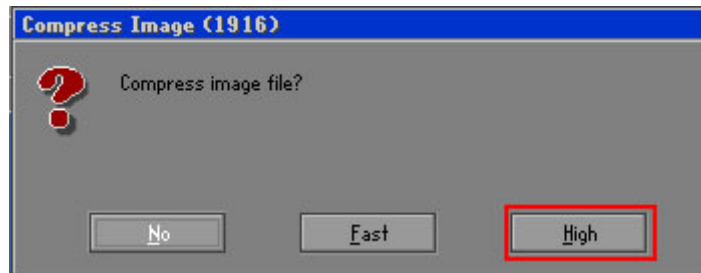

Figure A-17: Compress Image
Step 8: When the Compress Image screen in **Figure A-17** prompts, click **High** to make the image file smaller.